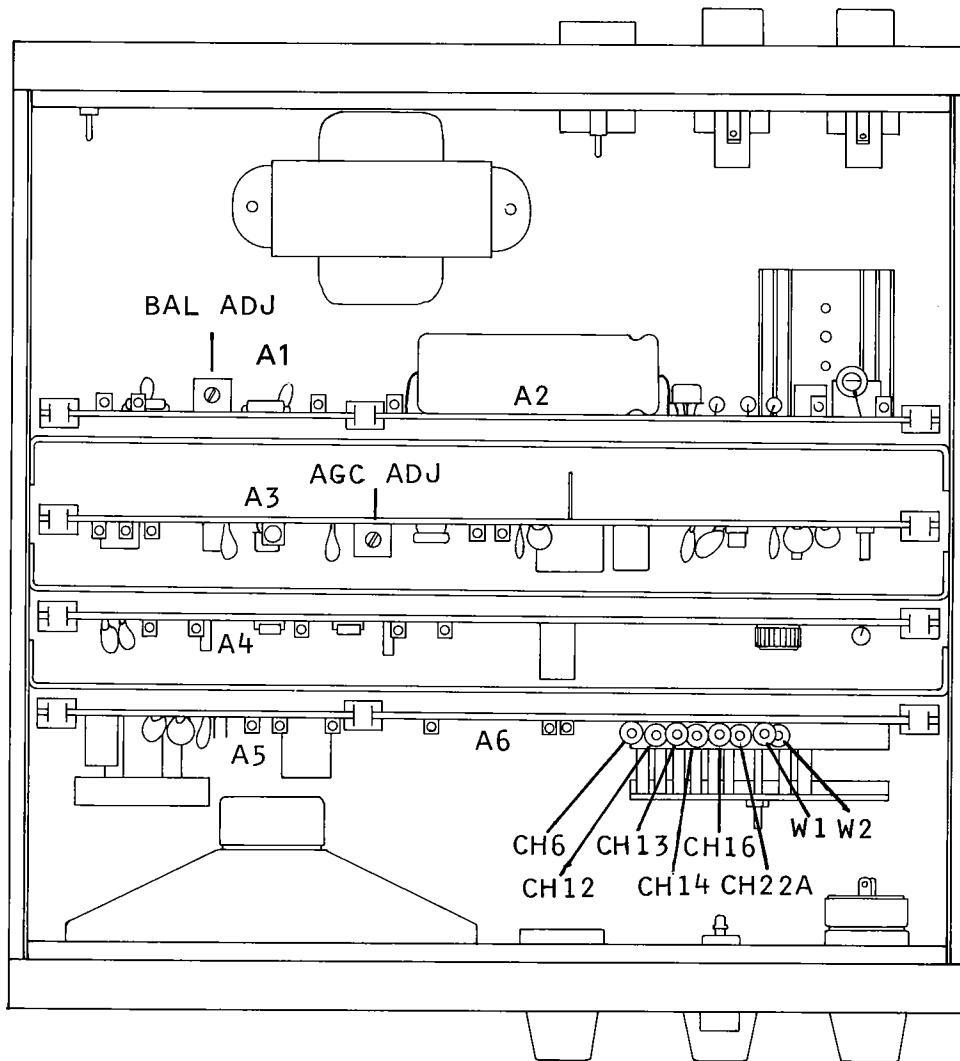
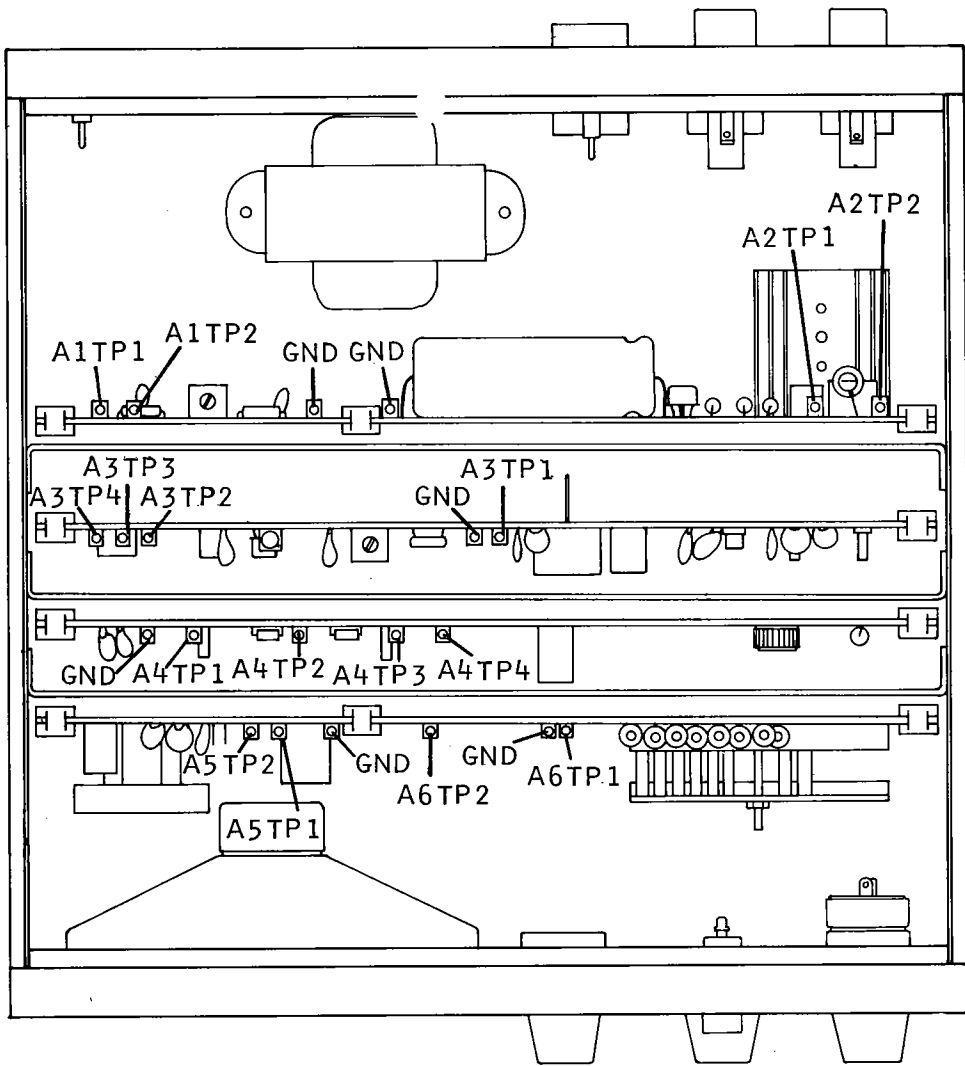

Figure 4-3. Receiver Unit Adjustment Controls
Figure 4-4. Receiver Unit Test Points
The following paragraphs provide adjustment procedures to return the homer to peak operating condition when repairs are required. Adjustment controls are illustrated in figure 4-3 and test points in figure 4-4. Refer to paragraph 4.6 for troubleshooting information. Schematics, wiring diagrams, and other service related information are provided in Section VII of this manual.
4.6.2 DC Voltages and Waveforms. - Receiver unit test point DC voltages and waveforms, and the conditions for making these measurements are given in Table 4-5 and figure 4-5 respectively. The test points are identified in figure 4-4. Since the conditions for making the measurement may differ from one test point to another, note the measurement conditions given.